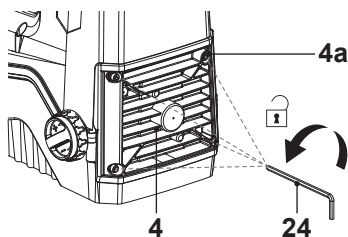

Fig. 13
1. Make sure that the machine is switched off and unplugged before opening the guard (4). The cutter does not stop immediately after switch off. Wait until all the parts stop. Place the product on an even surface and remove the collection box (13).
2. Loosen the bolts (x4) (4a) (Fig. 13, step 1) and remove the guard (4).